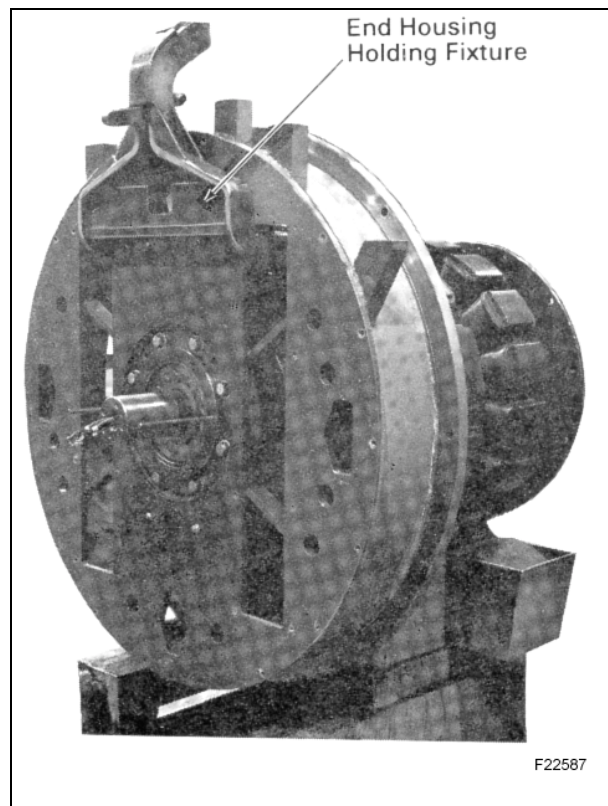

Figure 34 Attaching Crane Cable to End Housing
9. Support end housing with another crane cable and end housing holding fixture, Figure 34. Remove eight 3/4"-10 bolts securing end housing to stator frame.